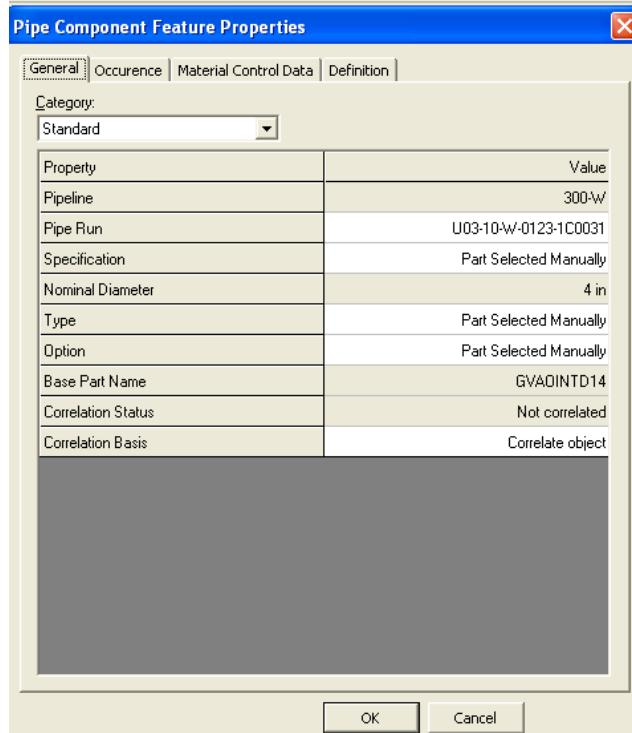

Figure 12: Pipe Component Feature Properties Dialog Box
- The **Pipe Component Feature Properties** dialog box appears. This dialog box has specifications automatically populated by the system, as shown in Figure 12.